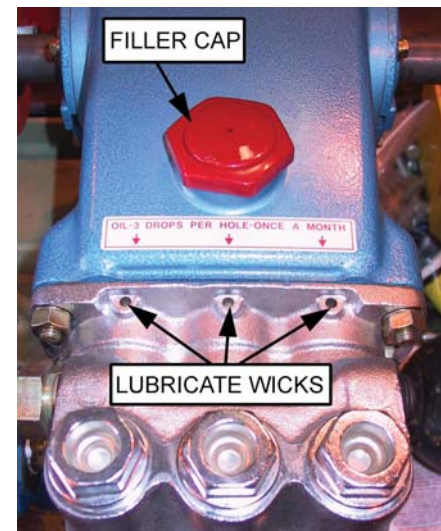

Fig. 9-7 Cat Pump Oil Filler Cap and Wick Lubrication Points
- Lubricate the wicks monthly with 2–3 drops of oil in each hole on top of the crankcase (Fig. 9-7). DO NOT lubricate the wicks at initial start-up. Operate pump for 10–15 minutes, then lubricate the wicks. Use crankcase oil as lubricant.